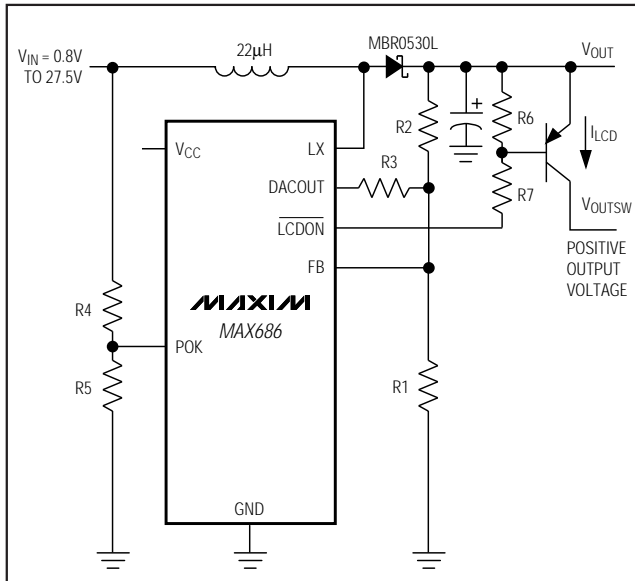

Figure 6. Using the POK for Input Voltage Monitoring
POK is the input to the power-OK comparator. The comparator drives an internal N-channel MOSFET. The MOSFET's open-drain output, $\overline{\text{LCDON}}$, can drive an external PNP transistor or P-channel MOSFET, switching a positive V_{OUT} to the LCD (Figures 6 and 7). When the voltage at POK exceeds 1.125V (power OK), $\overline{\text{LCDON}}$ goes low, turning on the external PNP transistor. When the voltage at POK drops below 1.125V (power not OK), the external PNP transistor turns off, cutting off power to the LCD display. This feature ensures that the LCD display is not damaged due to improper voltage levels. During shutdown or undervoltage lockout, $\overline{\text{LCDON}}$ is high impedance.
When the voltage at POK is greater than 1.125V (typical), the open-drain LCDON output pulls low. LCDON can withstand up to 27.5V to control an external PNP transistor to switch on the MAX686's positive output (Figures 6 and 7). A PFET can also be used, but a resistor-divider must be used in conjunction with it, so that the PFET does not exceed its V_{GS} rating. Three useful applications of this feature are as follows:
- *An input-sensing cutoff for positive outputs.* Connect POK to a voltage divider to sense the input voltage. The output switches on only when the input reaches the set level (Figure 6).
For input voltage sensing, a resistor-divider (R4-R5, Figure 6) from V_{IN} to POK controls the open-drain output LCDON, which pulls low when $V_{POK} > 1.125V$. Choose $R5 = 100k\Omega$. For example, if the minimum battery voltage is 5.3V, then determine R4 as follows: